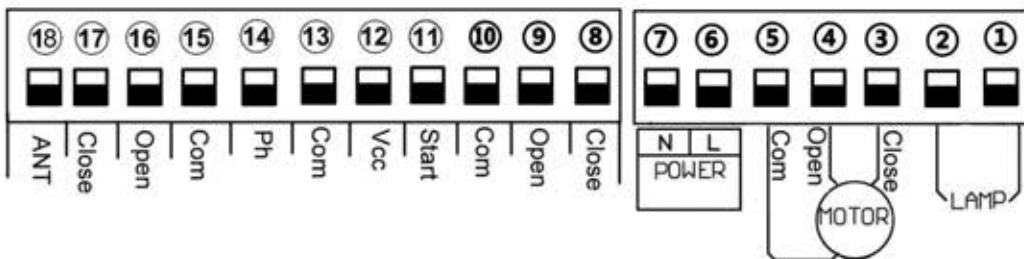

Fig 8
6. Installation diagram of electrical parts (Fig 8)